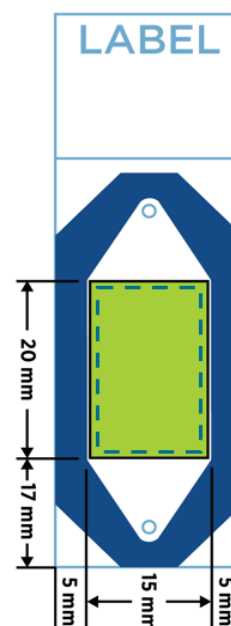

Figure 118: Tissue Scan Area (not to scale)
- Sections should be mounted in the center of the slide scannable area (Figure 118) while allowing adequate room for flow cell coverslip adhesives at the edges of the Scan Area.
1. Unstained tissue sections should be sectioned at **5  $\mu\text{m}$  thickness** and mounted on the label side of VWR Superfrost Plus Micro Slides or Leica BOND PLUS slides (Figure 118) (figure not to scale, see the template on the Flow Cell Assembly Tool for a to-scale template). Blocks may be sectioned up to 10  $\mu\text{m}$  thickness; however, the instrument will only image the 5  $\mu\text{m}$  closest to the slide.
- Sections should be centered within the scan area as shown above (Figure 118).